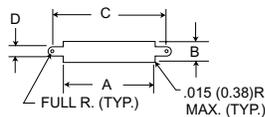
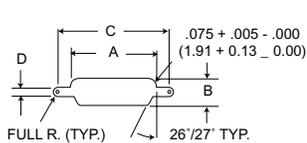

Figure 1
Figure 3
(see Figures 1 and 3)
2. Front mounting is preferred. However, when rear mounting is necessary, use figure 3 for dimensions.
5. Front mounting (Fig. 1) and rear mounting (Fig. 3) accommodate #2-56 screws when jackscrews are used. See details on page 24 when jackposts are used.